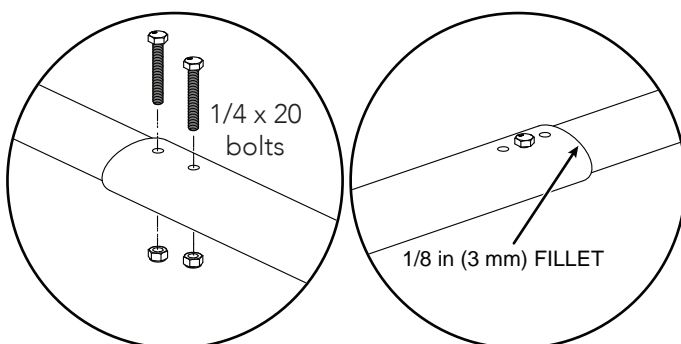

Figure 16. Set Permanent Arm Length
17. To set the arm lengths drill 17/64 inch holes through the holes on either side of the set bolts. Then put the 1/4 x 20 bolts through the holes and secure them with the lock nuts (Figure 16).
18. Alternatively, apply a 1/8 inch (3 mm) fillet weld to each seam to permanently set the length of the arm assembly (Figure 16).